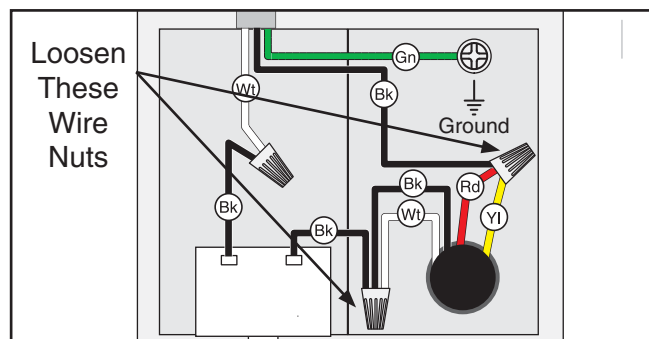

Figure 3. Location of wire nuts to be loosened.
3. Open the motor junction box, then loosen the two wire nuts indicated in **Figure 3**.